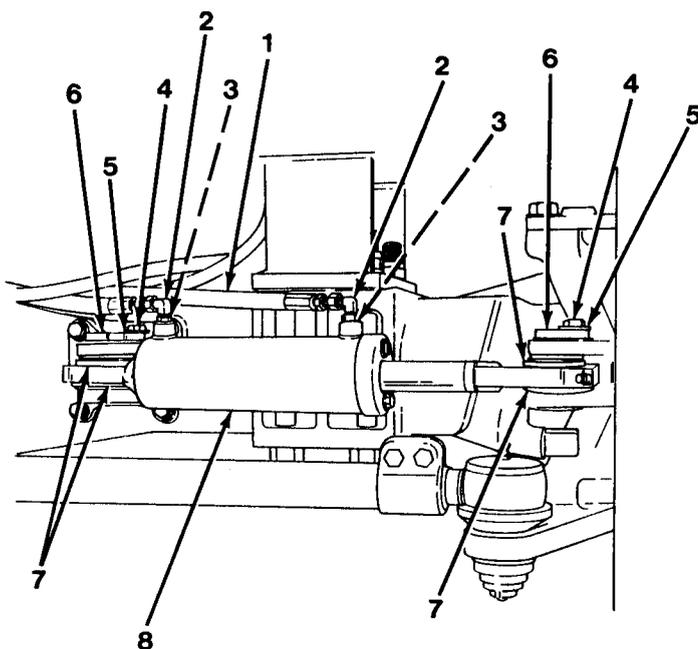

Figure 13-1
- Install steering cylinder (8) and four washers (7, Figure 13-1).
- Install two pins (6).
- Install two washers (5) and capscrews (4).
- Install two O-rings (3) and elbows (2).
- Connect two hydraulic lines (1) to elbows (2).